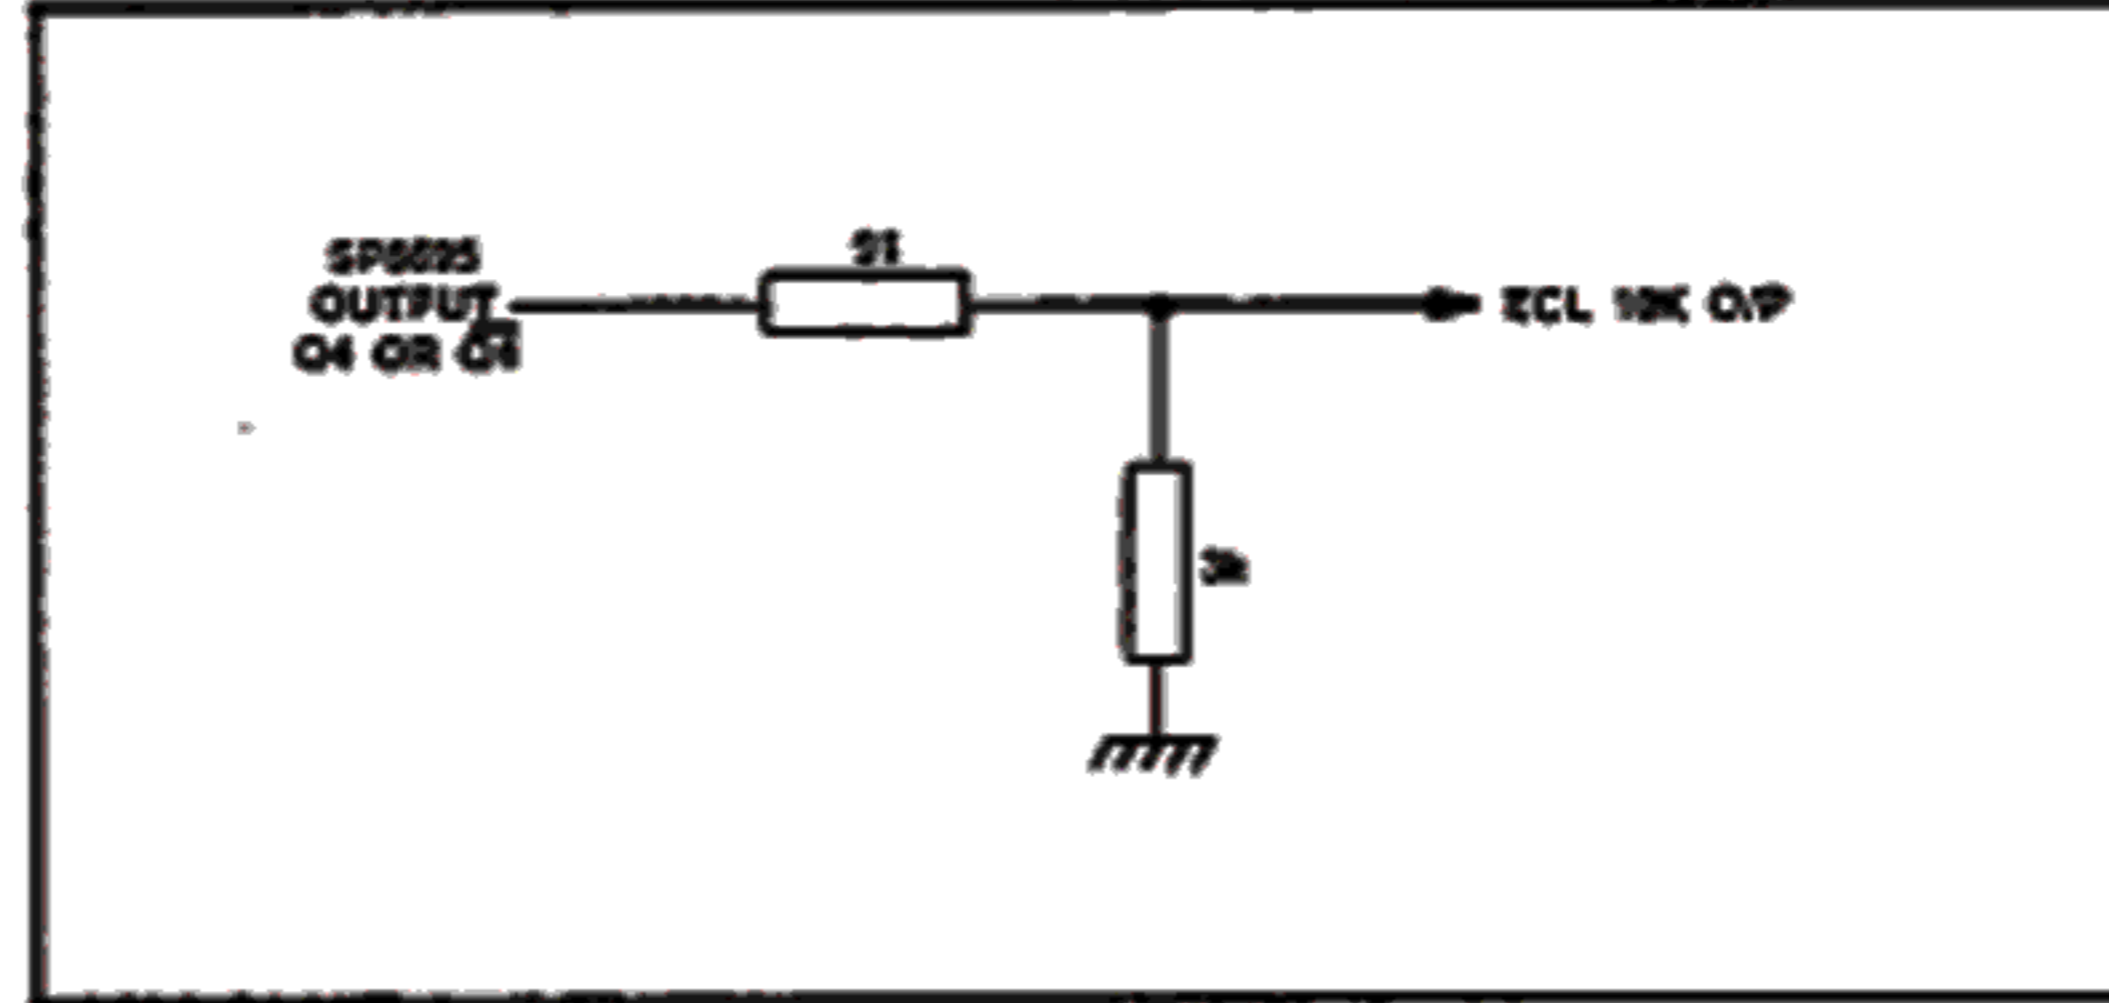

Fig.8 Interfacing to SP8695 output to ECL 10K
3. The Q₄ and Q₄ ECL outputs have internal circuitry equivalent to a 14k pull-down resistor on each output and are ECL II compatible: they can however be interfaced to ECL III/10K as shown in Fig. 8.